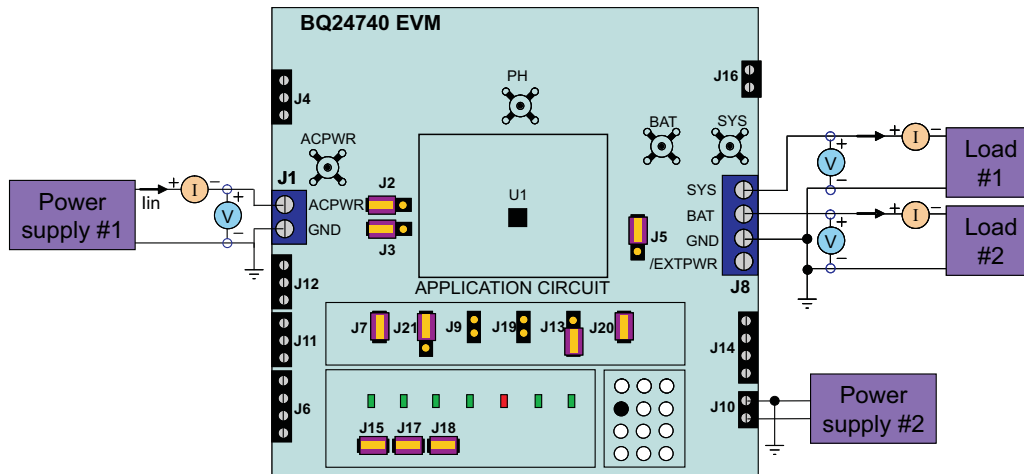

Figure 2. Test Setup for HPA206 (bq24740EVM)
3. Connect the output of the Load #1 in series with a current meter (multimeter) to J8 (SYS, GND). Ensure that a voltage meter is connected across J8 (SYS, GND). Turn on the power of the Load #1. Set the load current to 4 A  $\pm$ 50 mA (for bq24740 only) or 3.4A  $\pm$ 50mA (for bq24741 only), but disable the output. The setup is now like Figure 2 for HPA206. Ensure that  $I_{bat} = 0 \text{ A} \pm 10 \text{ mA}$  and  $I_{sys} = 0 \text{ A} \pm 10 \text{ mA}$ .